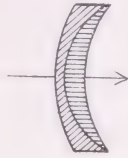

FIG. 27. THE ACHROMATIC LENS
*The Achromatic.* This is a single lens made up of two or more pieces of cemented glass. It is partially corrected for *spherical* and *chromatic* aberrations, and produces a passably sharp image provided the aperture is not too large, so that the unreliable outer portion of the lens is not used (at about  $f\ 12$ ),\* if only a *narrow angle of view* is used. However, depending on whether the diaphragm is used before or after the lens, it is still afflicted with distortion, which makes it unfit for use whenever a straight line has to be reproduced as such. The achromat is also known as the *aplanat* or the *symmetrical*. See Fig. 27.